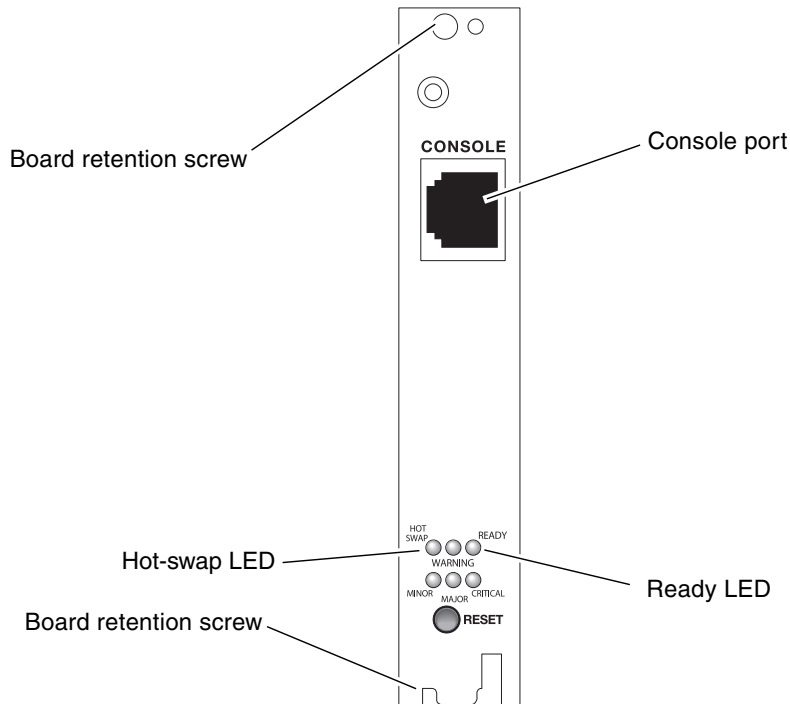

FIGURE 5-2 Distributed Management Card Ports
1. **Unscrew the board retention screws that fasten the board to the enclosure** (FIGURE 5-2).
- If system power is off or if the distributed management card's blue hot-swap LED is on, go to Step 3. Refer to FIGURE 5-2 for the location of the hot-swap LED.
Use only the Console port on the distributed management card; all other cabling should be to the rear transition card at the rear of the server. See FIGURE 5-2 for location of the Console port on the DMC.
Refer to FIGURE 5-2 for the location of the Console port on the distributed management card.